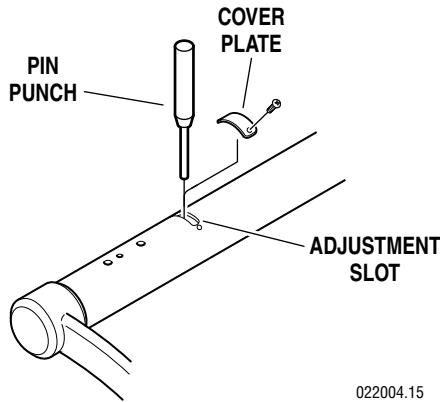

Figure 4-8. Vertical Travel Adjustment
b. The lighthead should move freely yet maintain its selected position within the range of motion without drifting. If an adjustment is necessary, refer to figure 4-8, and proceed as follows: